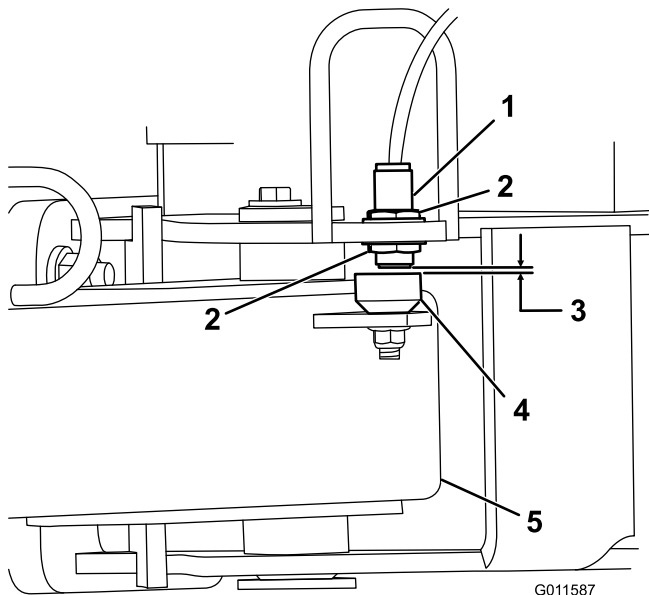

Figure 4
- Loosen the jam nuts securing the proximity switch to the frame and lower the switch until it is 0.13 ± 0.03 inch (3.3 ± 0.7 mm) from the sensing plate on the hitch tongue (Figure 4). Tighten the jam nuts to secure the adjustment.